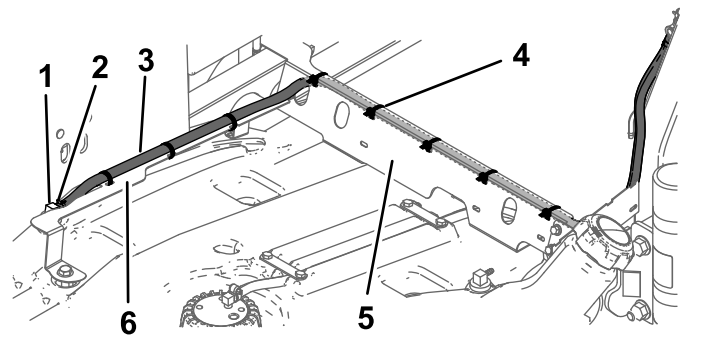

**Figure 8**
4. Loosely install the clip, large R-clamp, and bolt (1/4 x 5/8 inch) as shown in Figure 8.